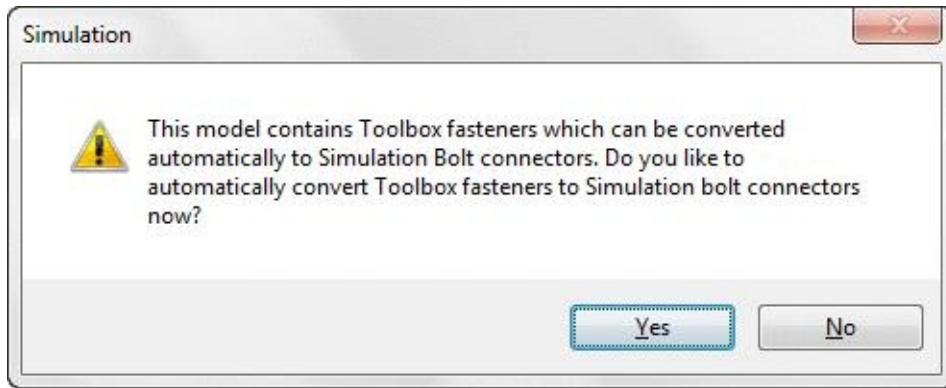

Figure-73. Simulation dialog box
- Click on the **Bolt** option from the **Connections Advisor** drop-down. If you have added the bolts in the assembly by using the **Toolbox**. Then the **Simulation** dialog box will be displayed as shown in Figure-73. Click on the **Yes** button to automatically apply the simulation connection of bolt.